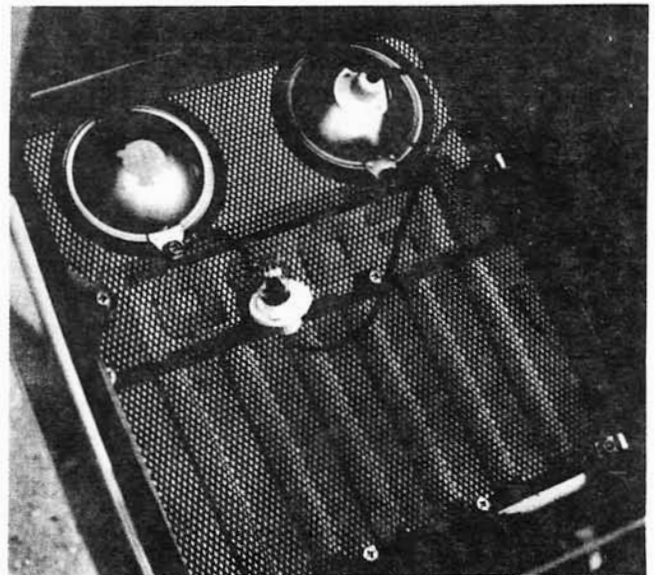

Figure 44 — Headlamp Removal
2. Turn socket to align index tab and remove socket from housing, Figure 44.